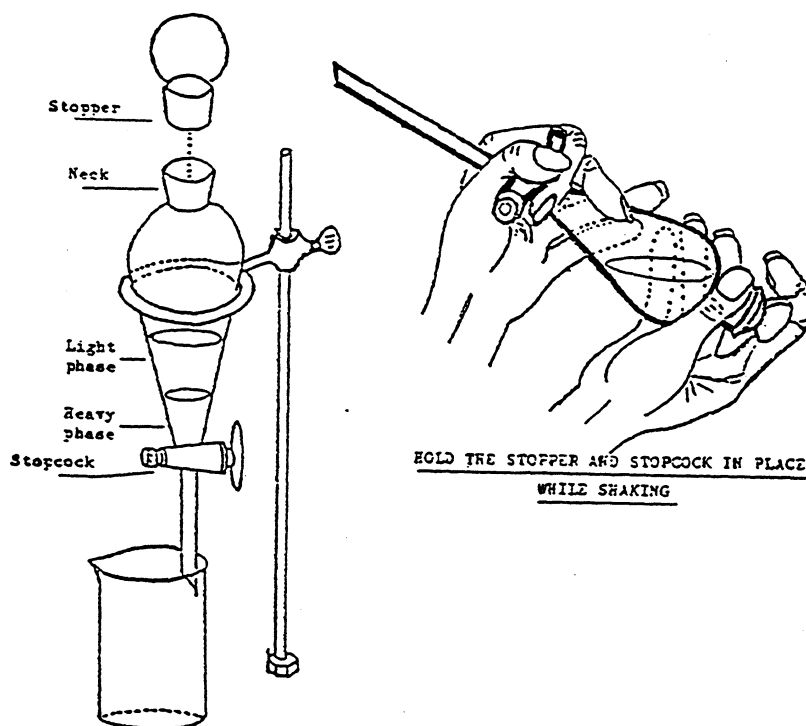

Figure 5.2. Use of a separatory funnel
1. Determine the mass of your sample and transfer the solid to a separatory funnel that is supported by an iron ring attached to a retort stand (see Figure 5.2).